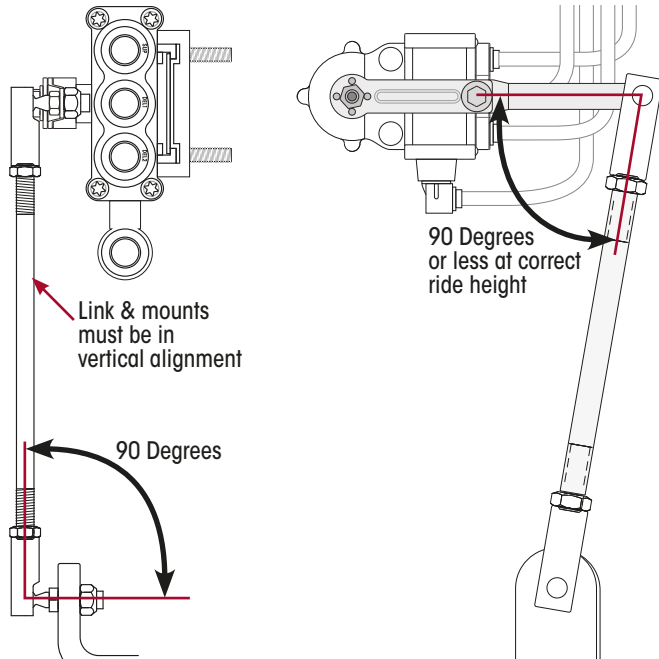

Figure 7: Check Link Mounting and Alignment
16. Check the linkage for interference and installed angle at ride height. Refer Figure 7.